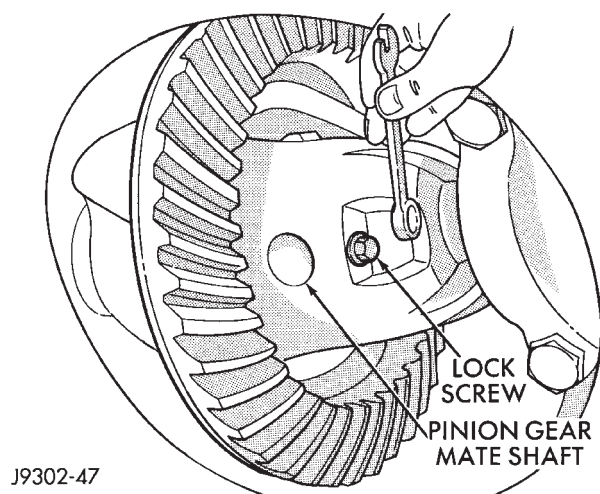

Fig. 55 Mate Shaft Lock Screw
(3) Remove ring gear, if necessary. Ring gear removal is necessary only if the ring gear is to be replaced. The Trac-Lok differential can be serviced with the ring gear installed.
(4) Remove the pinion gear mate shaft lock screw (Fig. 55).